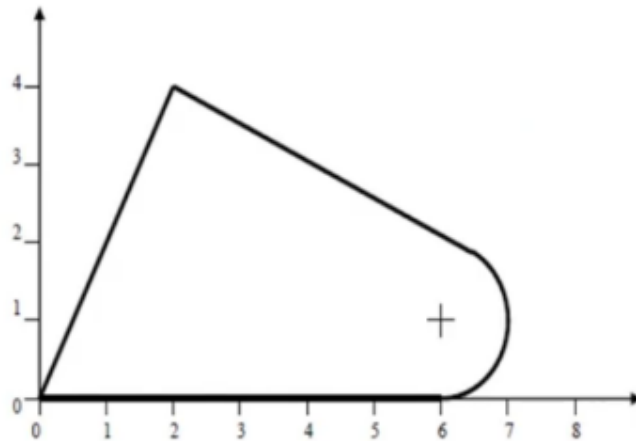

Fig.5
- b) Write a complete APT part program for the component shown in Fig. 5. **08**